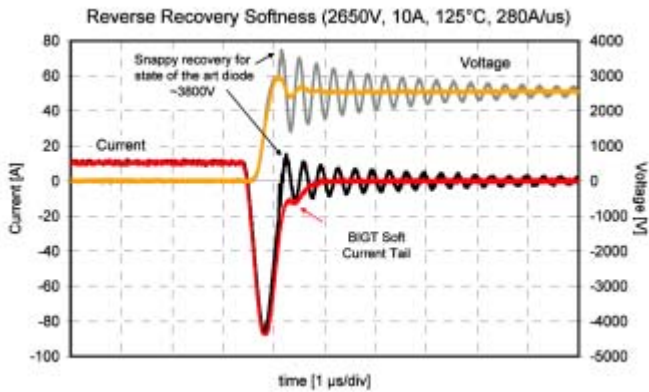

Figure 8a: Diode recovery mode (chip level)
- Softer switches:** FCE-concepts, e.g. utilized in BIGT (reverse-conducting IGBT) technology [5] offer softer switching to a certain extent. Figure 8a for diode recovery and 8b for IGBT turn-off mode